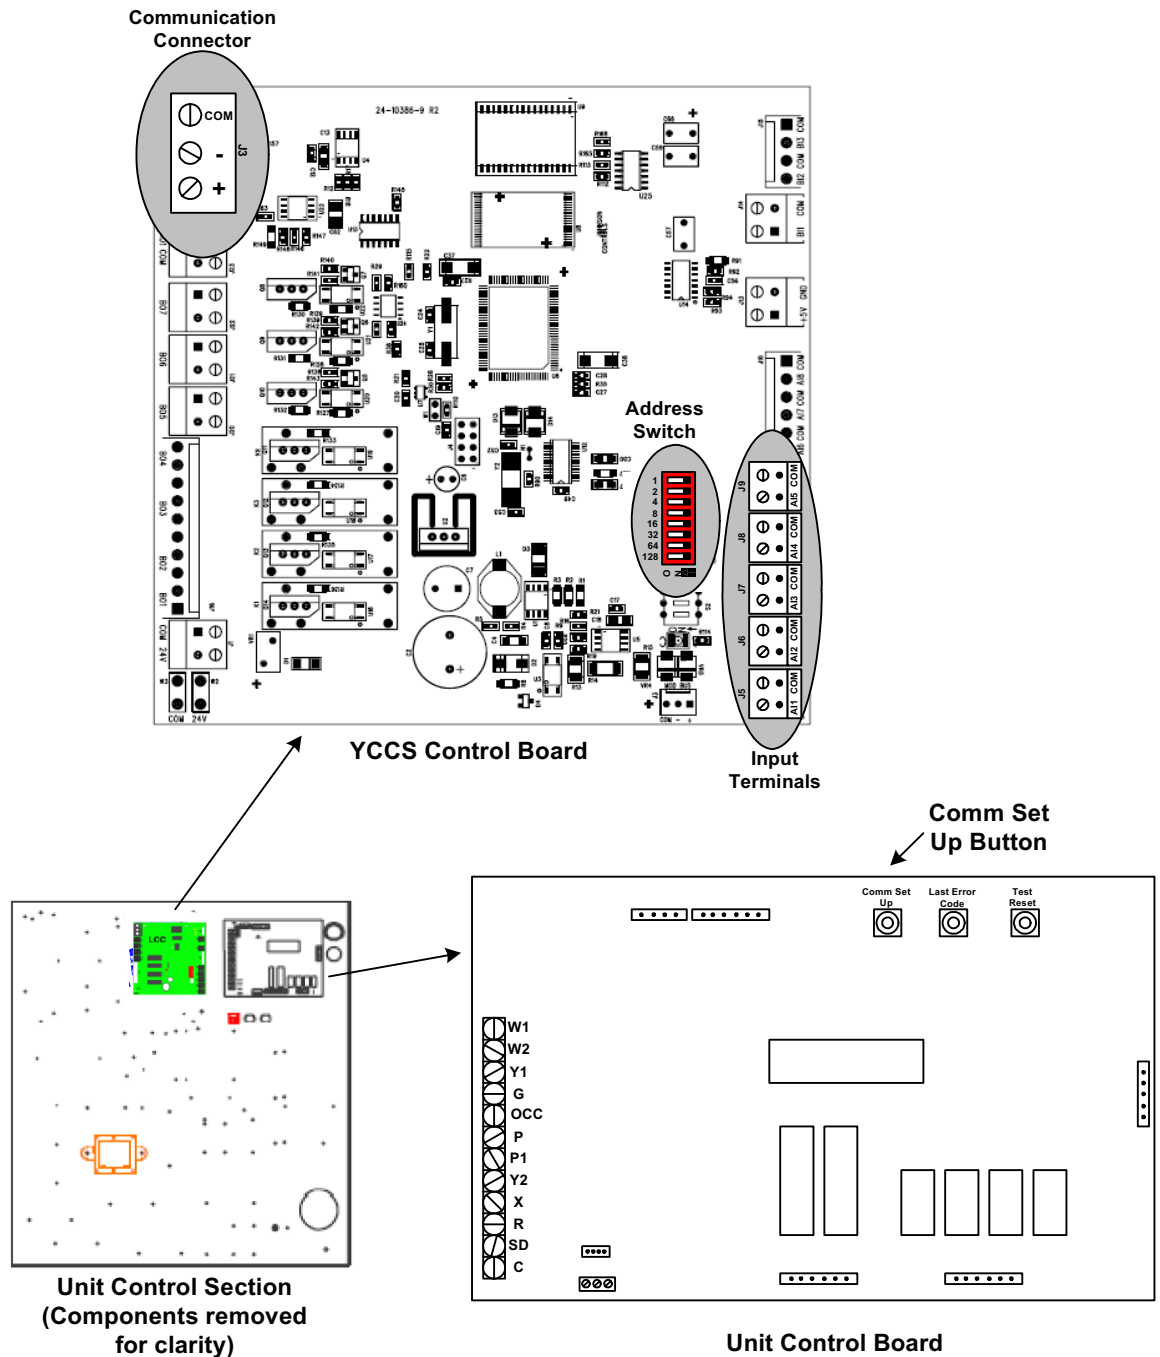

Figure 1: Unit Control Section Components
4. Make sure all the Rooftop Units are powered and operating properly (Figure 1).